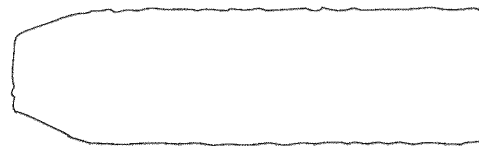

Fig. M7
4. If the envelope is as shown in Fig. M7, adjust the height of Guide Roller [2] (Refer to Fig.M3) so that the waveform looks like the one shown in Fig. M9.